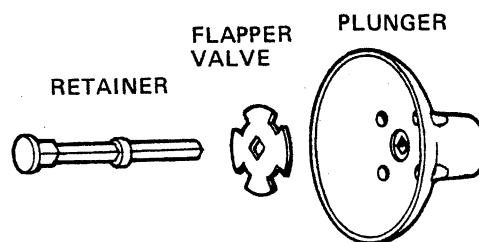

Figure 2
3. Assemble flapper valve to the plunger using flapper valve retainer (see Figure 2).